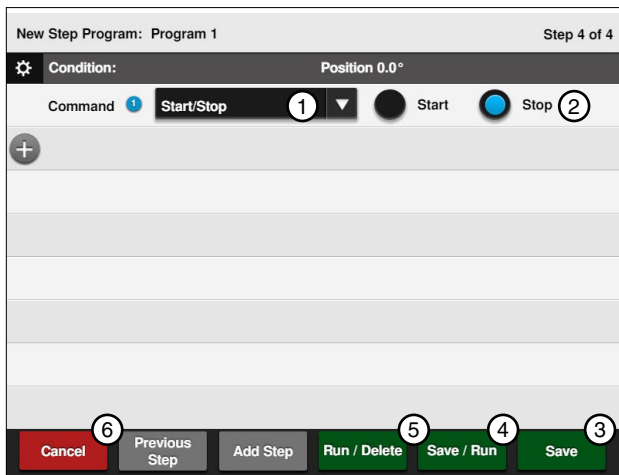

Figure 110-4 1. Start/Stop Command 2. Stop 3. Save 4. Save / Run 5. Run / Delete 6. Cancel
12. Enter the command to be executed at this position. Refer to Figure 110-4.
13. Finish the program by selecting one of the following. Refer to Figure 110-4.